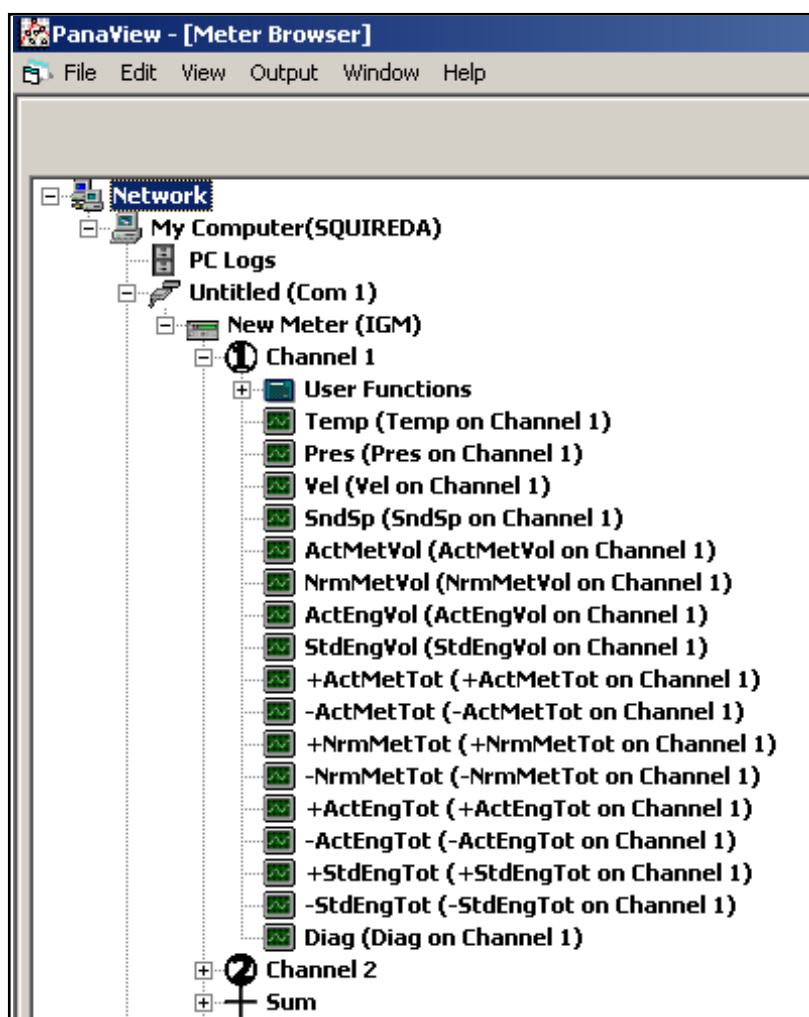

Figure 60: PanaView Output Menu
4. Click on the + sign before each level to open it. See *Figure 60* below and *Table 9* on page 70 for details on the available options.